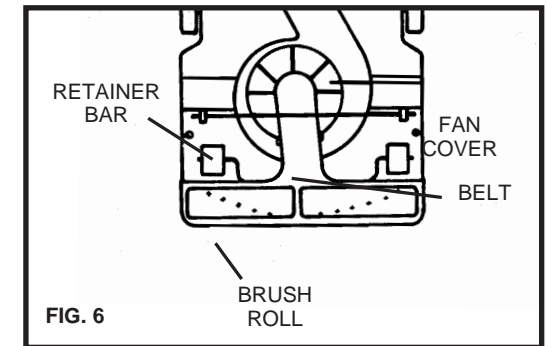

FIG. 6
1. Release handle by depressing foot pedal, lower handle tube and turn upright over (fig 6).